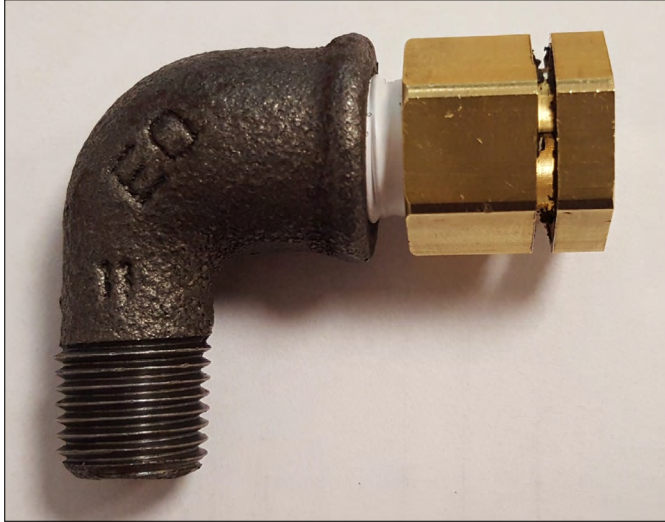

Figure 1: Fitting the brass connector into the 90° elbow
3. Fit the brass connector into the elbow using a suitable sealant or PTFE tape and tighten (refer to Figure 1).